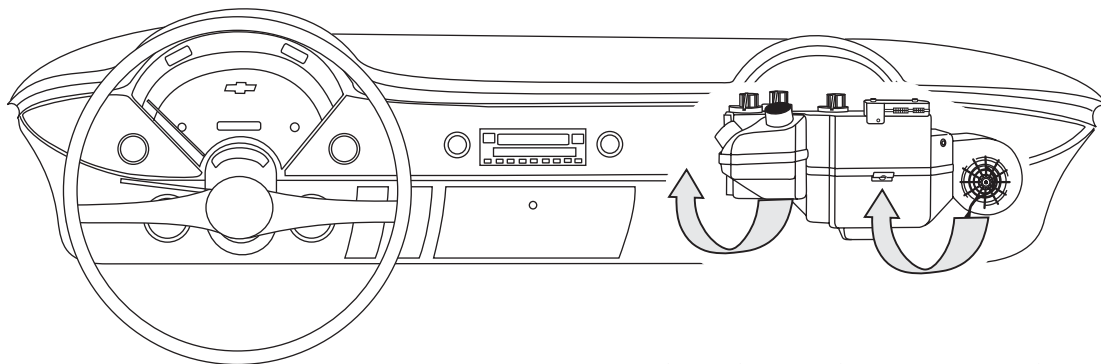
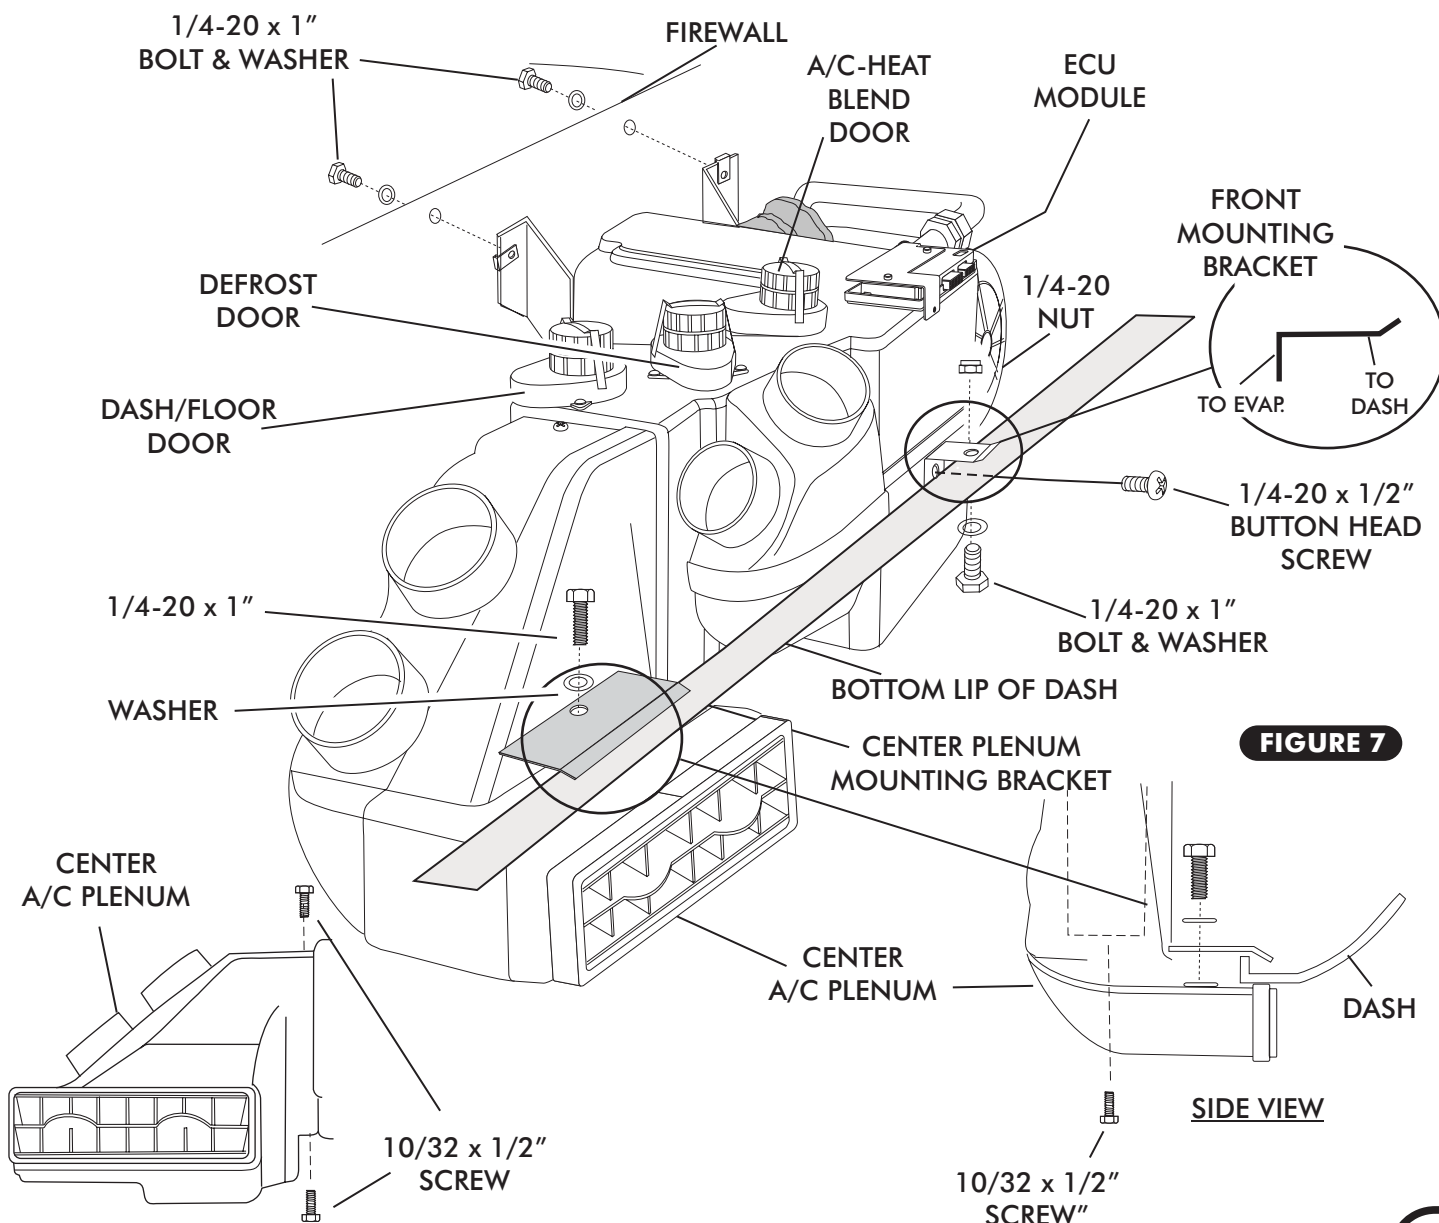

FIGURE 6b
FIGURE 7
- ☐ LIFT EVAPORATOR UNIT UP & UNDER THE DASHBOARD (SEE FIGURES 6-6a BELOW & FIGURE 6b, PAGE 10). SECURE LOOSELY TO THE FIREWALL FROM THE ENGINE COMPARTMENT SIDE WITH (2) 1/4-20 x 1" BOLTS AND WASHERS. SEE FIGURE 7, PAGE 10 & FIGURE 17, PAGE 18.
- ☐ INSTALL FRONT MOUNTING BRACKET TO EVAPORATOR UNIT WITH 1/4-20 x 1/2" BUTTON HEAD BOLT AND TIGHTEN AS SHOWN IN FIGURE 7, PAGE 10. LOOSELY ATTACH FRONT MOUNTING BRACKET TO DASH WITH 1/4-20 x 1" BOLT, WASHER AND NUT. SEE FIGURE 7, PAGE 10
- ☐ INSTALL CENTER A/C PLENUM TO EVAPORATOR WITH (2) 10/32 x 1/2" SCREWS. SEE FIGURE 7, PAGE 10.
- ☐ LOOSELY SECURE THE CENTER PLENUM TO DASH WITH THE CENTER PLENUM MOUNTING BRACKET, USING A 1/4-20 x 1" BOLT AND WASHER. SEE FIGURE 7, PAGE 10